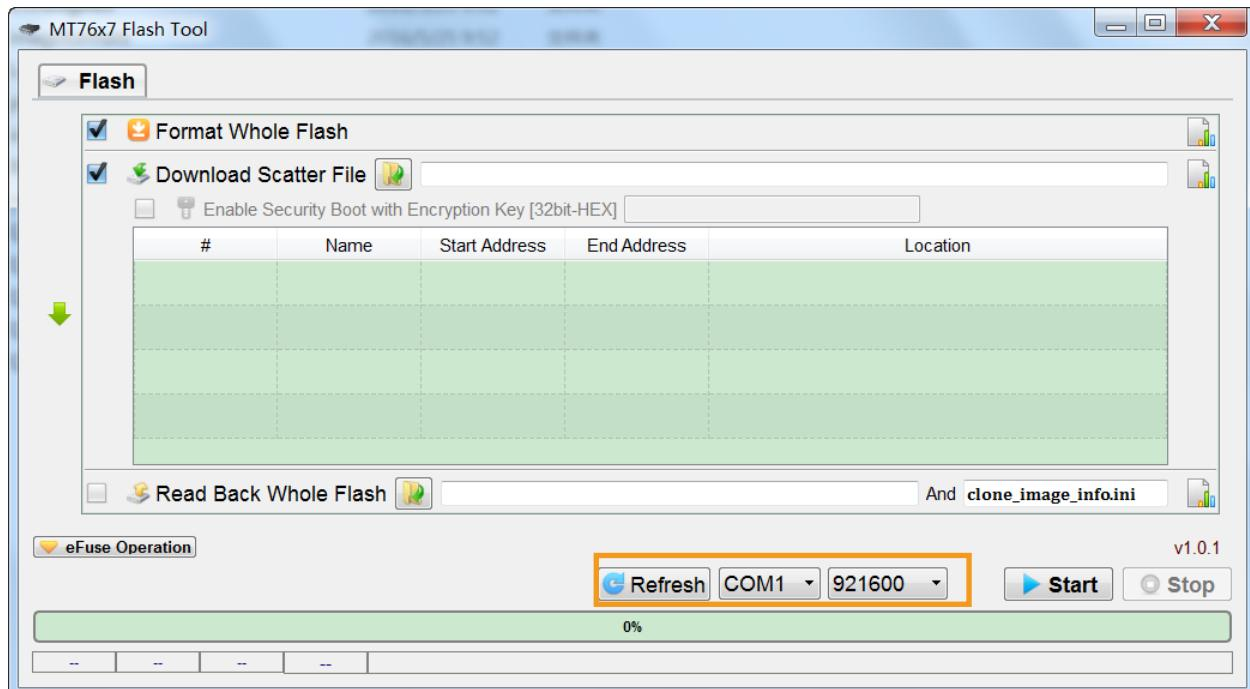

Figure 7. Setup the COM port and baud rate
- Click **Refresh** and configure the correct COM port (see section 2.2.2, “Installing the LinkIt 7687 HDK drivers on Microsoft Windows”) and the baud rate, as shown in Figure 7.